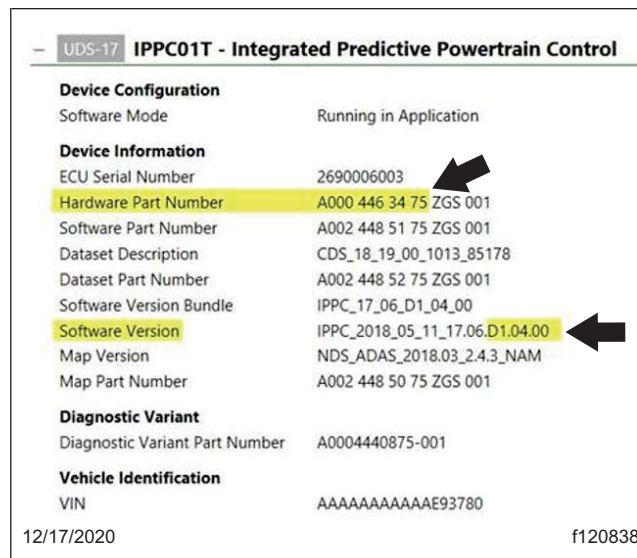

Fig. 1, IPPC Identification Screen
6. Go to "Identification" at the left side of the screen and verify the start of the "Hardware Part Number" is A000 446 34 75. See Fig. 1.
7. If the hardware is A000 446 34 75, check the software version. The updated software version is D1.04.01 or later. See Fig. 1.